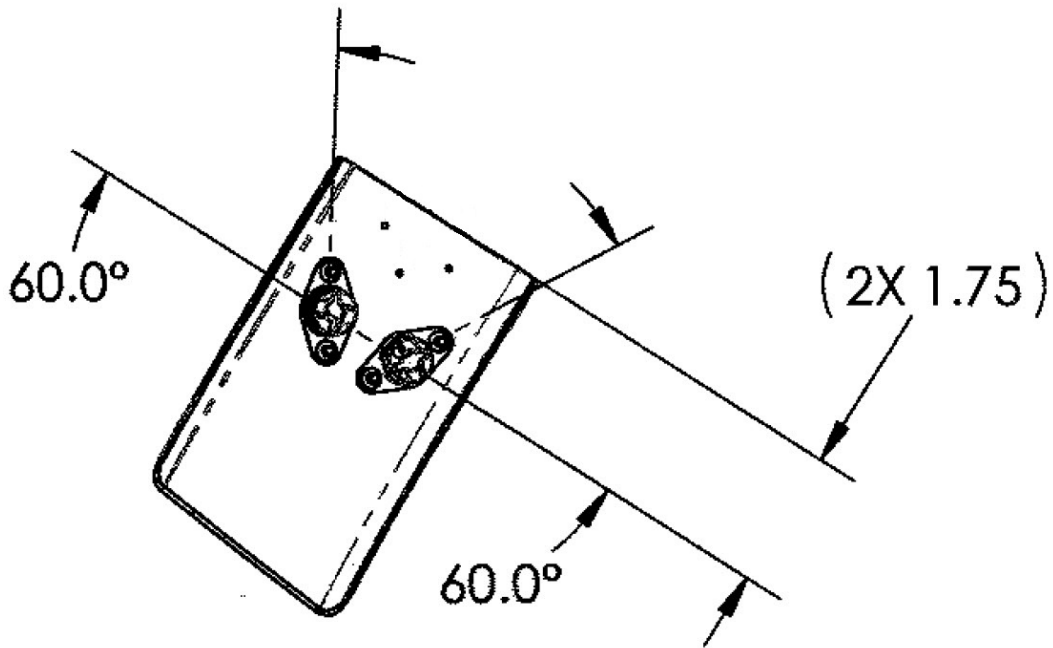

Figure 8-17
P. Install (4) Camlocs to Channel Assembly as shown in Figure 8-17.